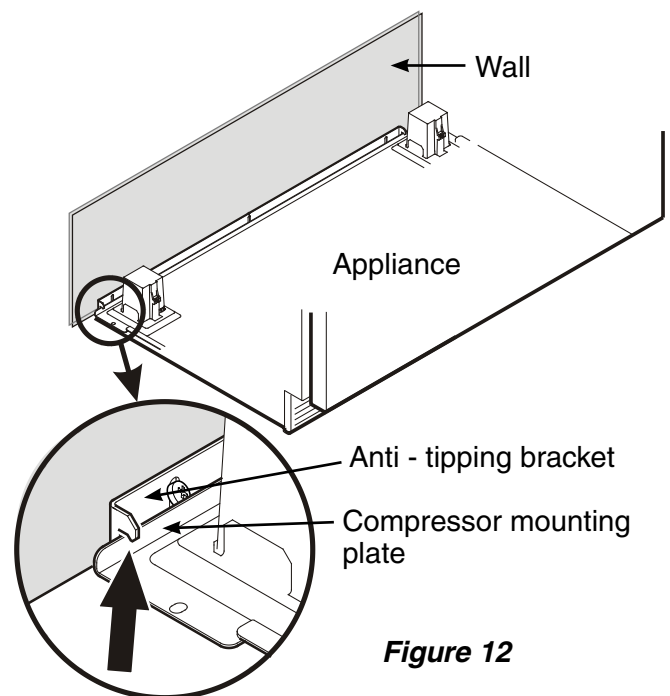

Figure 12
6. Push the appliance slowly to the back wall until the compressor mounting plate makes contact with the anti-tipping bracket (**Figure 12**).
To prevent the appliance from tipping forward the compressor mounting plate must have contact with the anti tipping bracket (Figure 12).